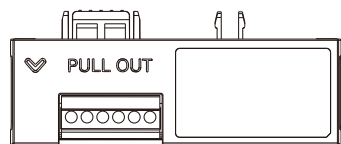

Fig.2 Outline of function extension module
2.1 The controller can realize fire linkage, generator start-stop, communication, Remote to Source II and other functions through external extension modules. External extension modules and their functions are shown in Fig.2 and Table 3.